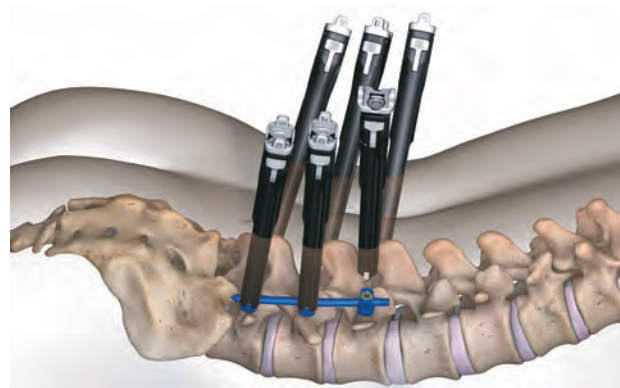

Figure 32
- Remove the screw towers from the screw by turning the collar at the proximal aspect of the tower clockwise 90° (Figure 32).